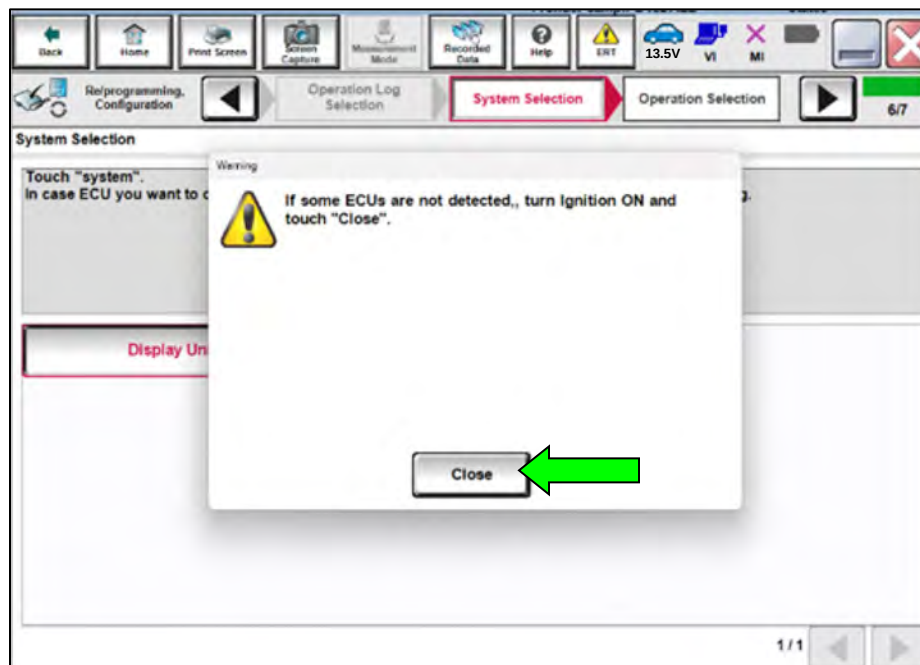

Figure 22
28. When the warning in Figure 22 displays, select **Close**.